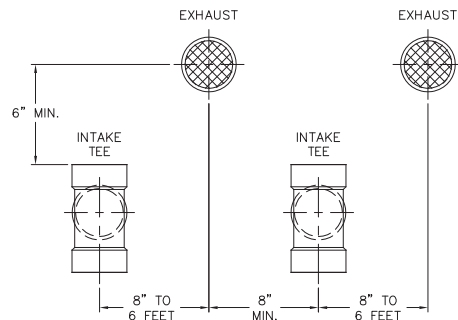

Figure 3.1: Vent Pipe Spacing for Multiple PUREFIRE® Boilers
- e. For multiple boiler installations, the minimum horizontal distance between the inlet of one boiler to the exhaust of an adjacent boiler is 8" center-to-center. In addition, the minimum vertical distance between the exhaust and air inlet is 6". See Figure 3.1 for an illustration.